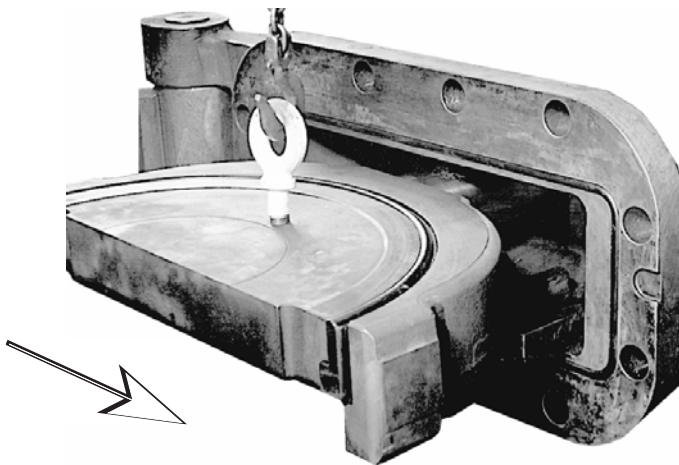

Figure 4-7. Install Eyebolt and Slide Ram Horizontally
7. Install $\frac{5}{8}$ " (15.88 mm) eyebolt in the top of the ram as shown in Figure 4-7.
8. Slowly lift the ram to take the weight off the ram shaft and slide the ram horizontally as shown in Figure 4-7.